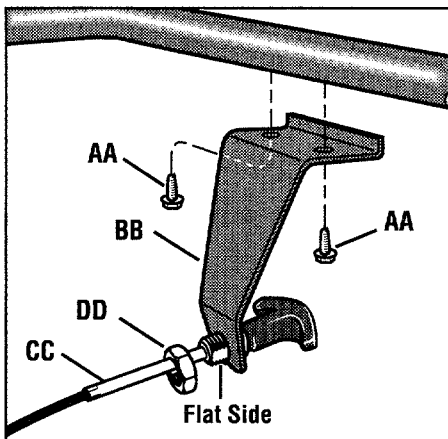
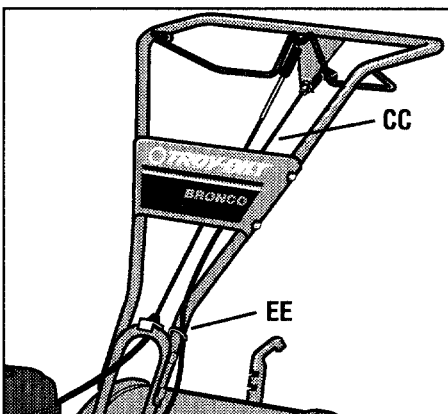

Fig. 2-8: Install reverse cable bracket and reverse clutch cable.
Fig. 2-9: Route reverse clutch cable (CC) as shown. Attach with cable tie (EE).
1. Unwrap the reverse clutch cable (cable with a knob, a large hex nut and a bracket attached to it) from its shipping position and route the cable (CC, Fig. 2-8 and Fig. 2-9) up to the handlebar. Be sure that the cable is routed beneath the Forward Clutch Bail.
2. Remove the two self-tapping screws (AA, Fig. 2-8) from the handlebars, position the reverse cable mounting bracket (BB, Fig. 2-8) as shown, and reinstall the two self-tapping screws.
3. Insert the cable (CC) through the slot in the cable bracket and position the threaded assembly so that the flat side is aligned with the flat side of the mounting hole. Slide the large hex nut (DD) up the cable and tighten it securely.
4. Fasten the reverse clutch cable to the left side handlebar with a cable tie (EE, Fig. 2-9).